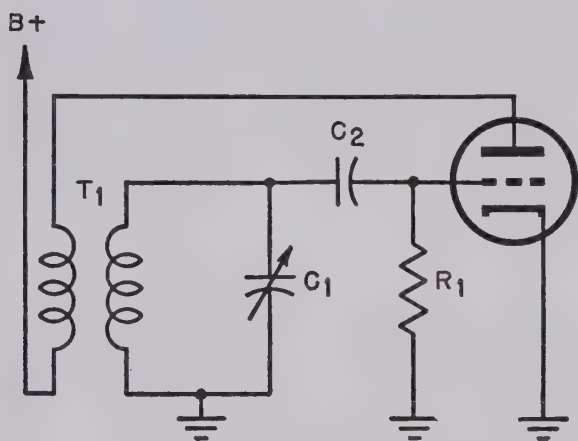

Figure 3 Tuned-grid oscillator.
- (1) Figure 3 shows a *self-excited* oscillator circuit, so-named because it requires no external signal to start or maintain oscillations. Because the tuned circuit is in the grid of the tube, it is called a *tuned-grid* oscillator. When the switch is turned on, current starts to flow in the plate circuit of the tube and passes through the primary of transformer T_1 . Current through the primary causes magnetic lines of force to cut across the secondary, inducing a voltage in it.